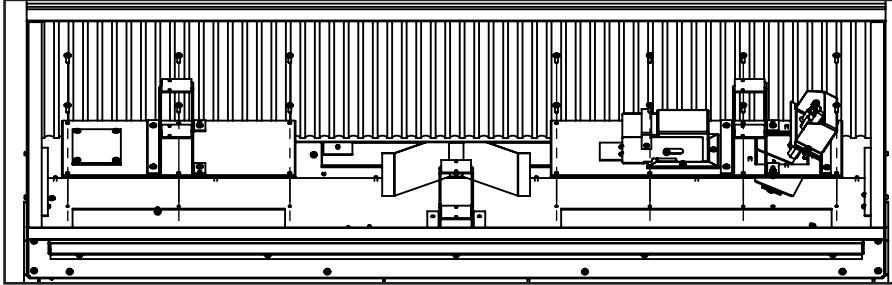

Figure 7: Removing Access Door
2. Remove the (14) T-20 bolts retaining the access panels as shown in Figure 7.